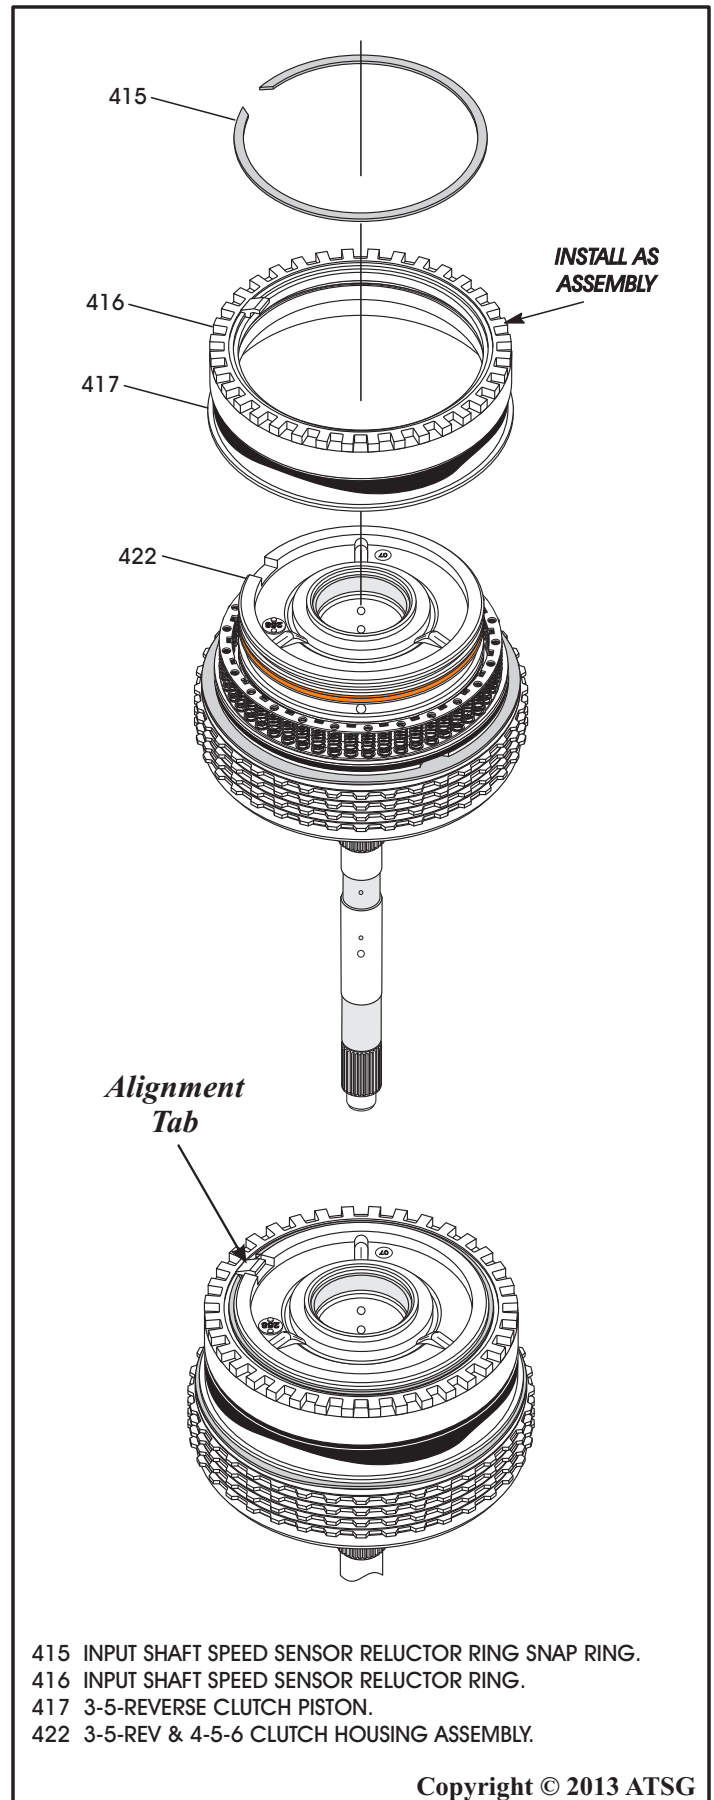

Figure 160
53. Install the reluctor wheel and 3-5-Rev piston as an assembly, as shown in Figure 160.
**Note:** The reluctor ring must be rotated so that alignment tab fits into the slot in the housing, as shown in Figure 160.
55. Install the snap ring with alignment tab centered in the snap ring opening (See Figure 160).